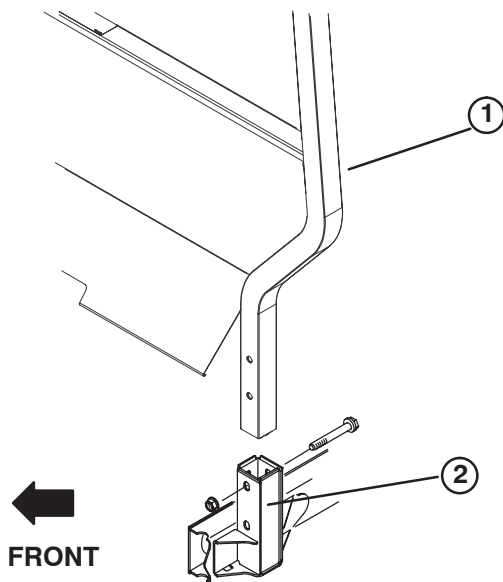

Figure 6
1. Insert each side of ROPS into mounting bracket on each side of vehicle frame, positioning ROPS as shown in figure 6.